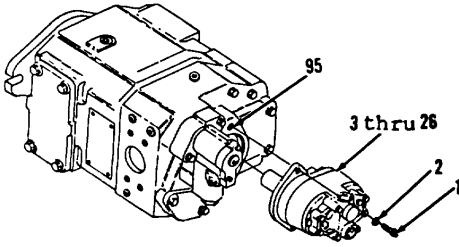

Figure 10-11.
- 87. Install items 26 thru 3 as an assembly, two lockwashers (2) and bolts (1) to head (95, Figure 10-11).